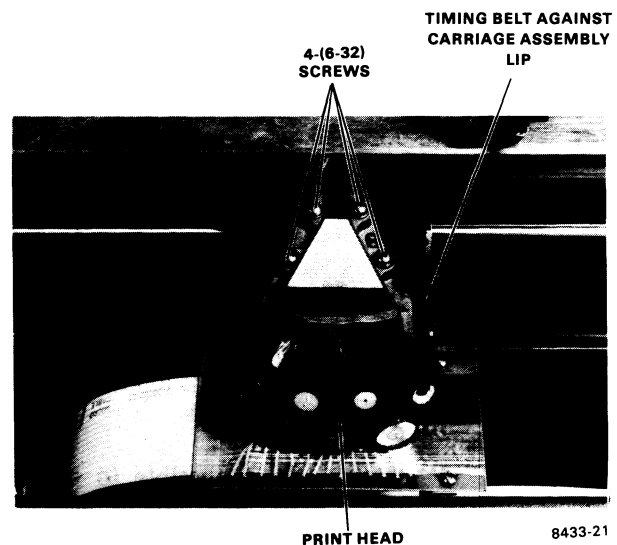

Figure 7-4 Print Head Removal
7. Remove the four (6-32) screws, lock-washers, and flat washers that secure the print head to the carriage and remove the print head and the ribbon cable (Figure 7-4).
4. Secure the new print head with the four (6-32) screws, lockwashers, and flat washers, ensuring that the timing belt is against the plastic lip (Figure 7-4). Make the screws finger tight.
3. Remove the four (6-32) screws, lockwashers, and flat washers that secure the print head to the carriage (Figure 7-4). Set the print head carefully on the cabinet base.